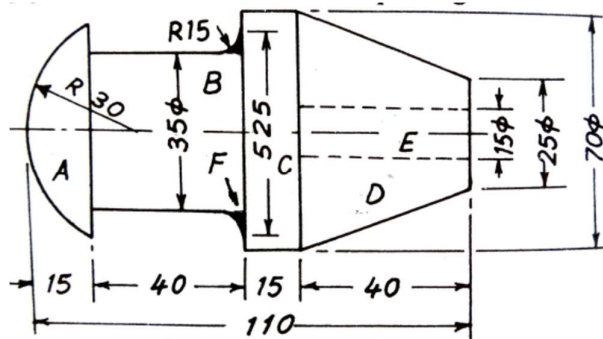

Fig. 6.18. A brass component.
11. (a) (i) Find the weight and material cost of the brass component as shown in fig. 6.18. (8)